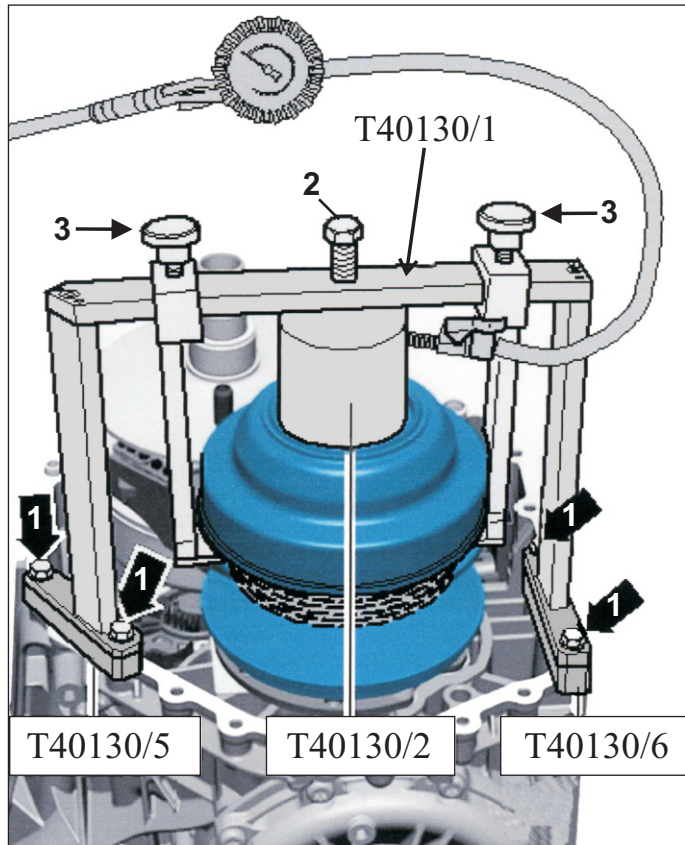

Figure 9
3. For the 38 mm chain, attach adapter tool number T40130/2 onto the output pulley set II with spacers T40130/5 and T40130/6 as seen in figure 9. The O-rings inside the adapter tool and the sealing surfaces on the pulley set should be cleaned and lubricated with ATF.